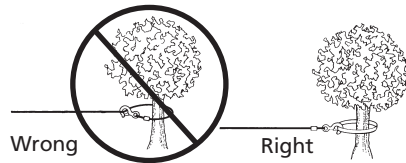

Figure 3
9. NEVER HOOK THE WIRE ROPE BACK ONTO ITSELF. You could damage the wire rope. Use a nylon strap (Figure 3).